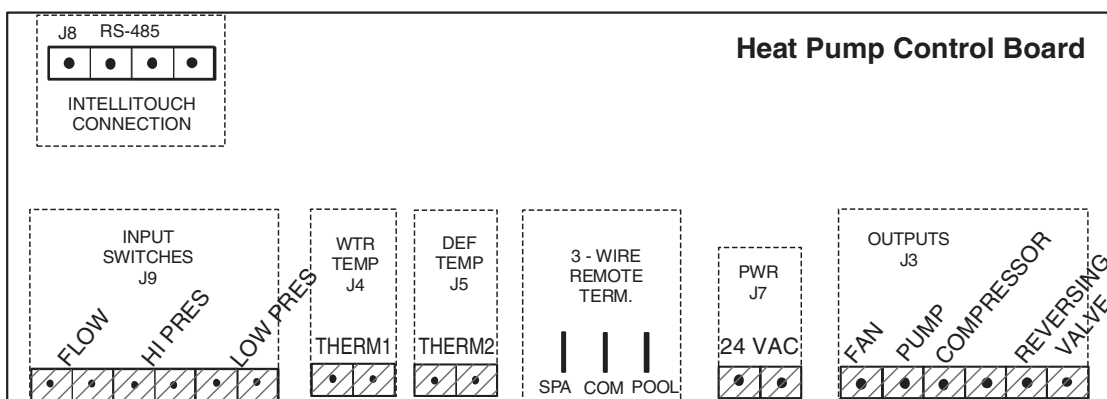

Figure 11.
9. Connect the cable from the IntelliTouch® or EasyTouch® Load Center to the heat pump remote control terminals using ¼ in. “Spade” connectors, see Figure 11 on the previous page. Follow instructions for wiring on page 12.